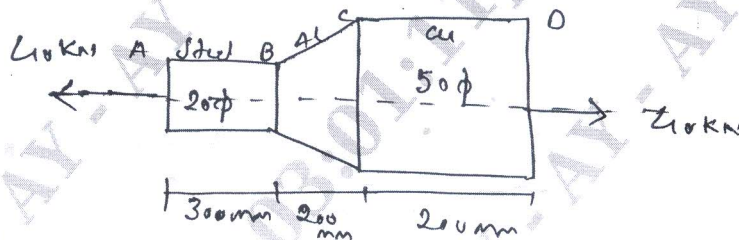

Fig.Q2(a)
- A stepped bar is subjected to an external load as shown in Fig.Q2(a). Calculate the change in length of bar. Take $E = 200$ MPa for steel, $E = 70$ MPa for Aluminium, $E = 100$ MPa for copper.